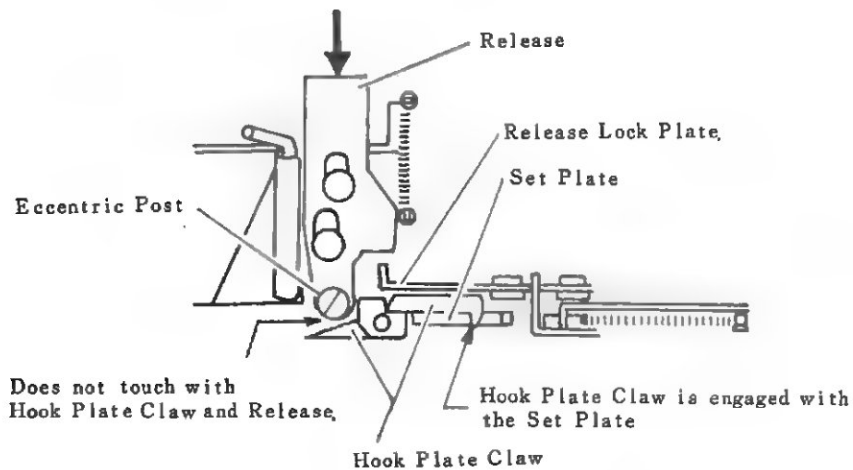

Fig 19
- f) When pushing the Release then Release is locked and does not touch with Hook Plate Claw and Release as shown in (Fig 19).
By depressing the Shutter Release Button about 0.5mm, Shutter Release Switch is turned "ON" and then exposure LED will light up in viewfinder. Then press Shutter Release Button all the way the Hook Plate Claw is released from the Set Plate. See(Fig 19) Adjust by turning Adjusting Plate as shown below.